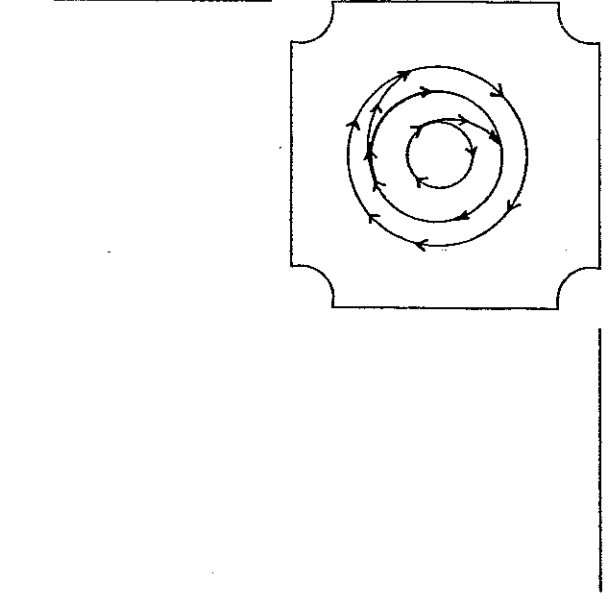

Figure 11.
- c. Circle mound (clockwise and counter-clockwise). (Figure 11.)